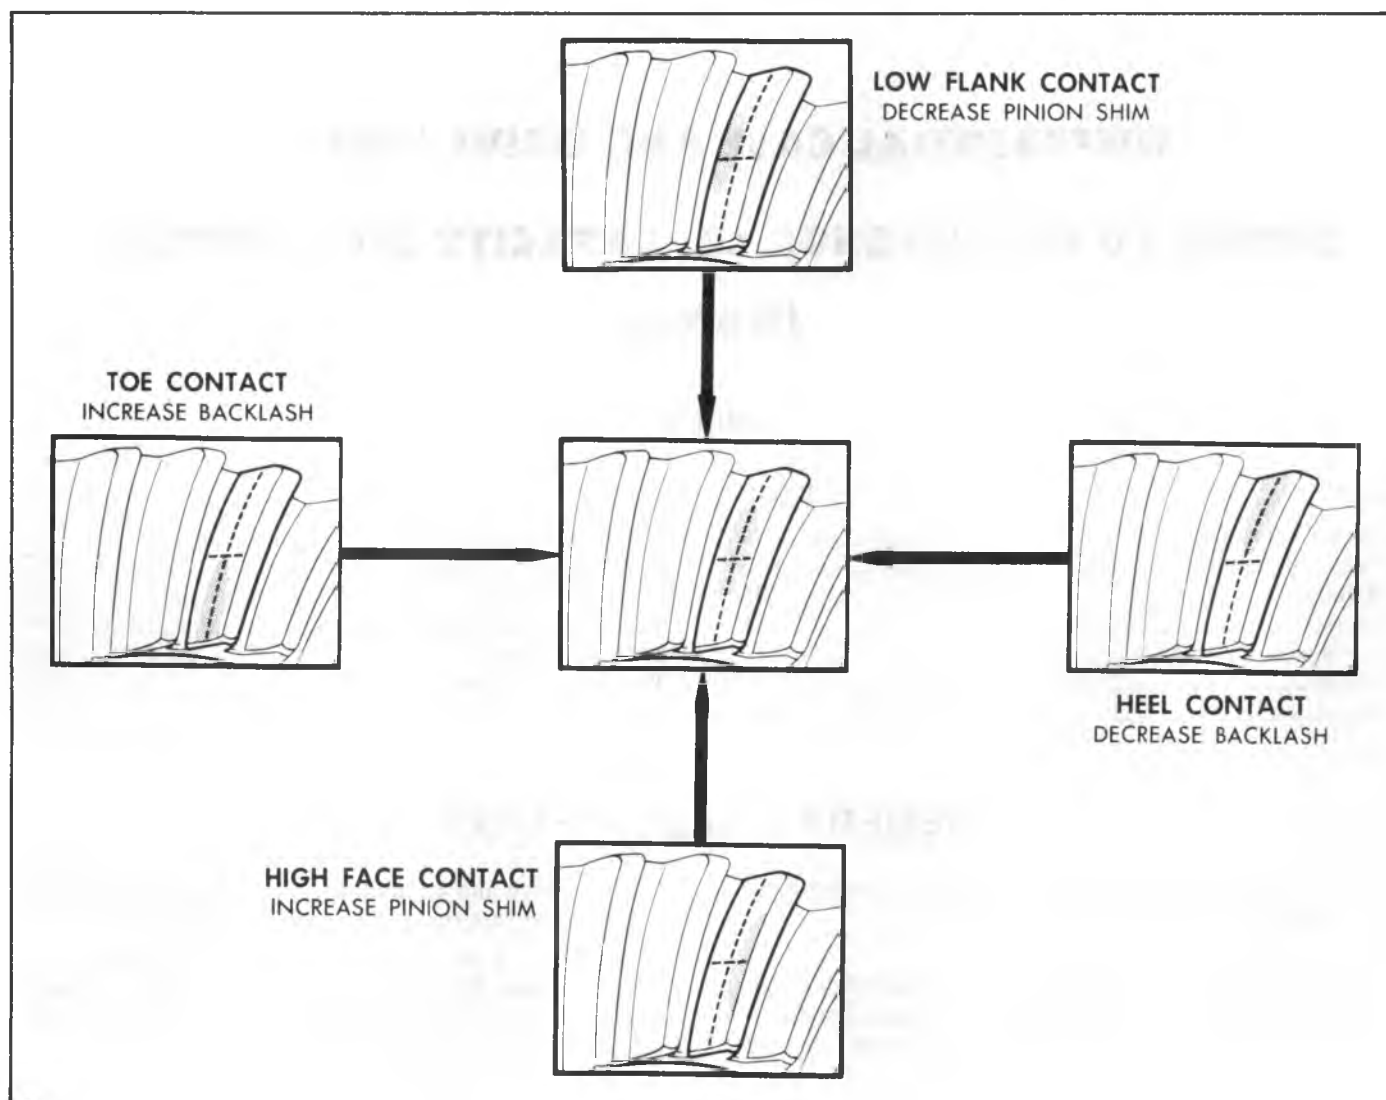

Fig. 28C—Gear Tooth Contact Pattern
5. Observe pattern on ring gear teeth and compare with Figure 28C.